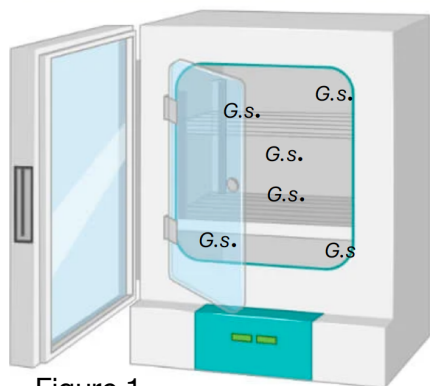

Figure 1
**Biological indicators (BIs)** are spores of *Geobacillus stearothermophilus* in a culture tube. The spores ( $1 - 2.5 \times 10^6$ ) are inoculated onto a stainless-steel disc and placed into a vial with an ampule of growth ≥medium with growth indicator dye as illustrated in Figure 2. BIs are place in the incubator chamber as exemplified in Figure 1 and noted (with results in) Table 1. At the end of the treatment cycle, the BIs are incubated at 57°C for 7 days and noted for color change (purple to yellow indicates spore growth, not effectively killed). Successful treatment is interpreted as  $\geq 6$ -log reduction in viable organisms.